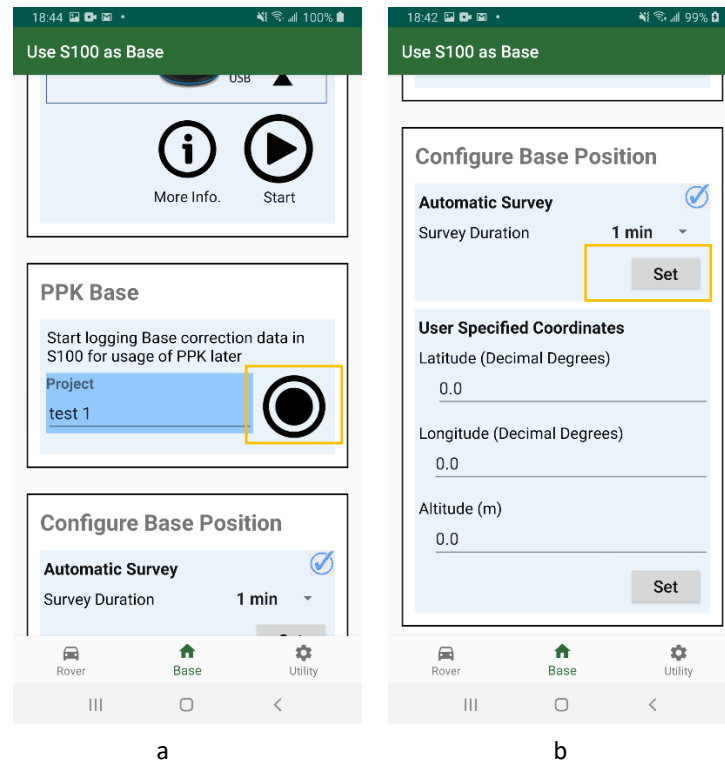

Figure A-2
1. Setup mobile RTK base to log data for later uploading to online PPP service to derive accurate base position. See Figure A-2 a.
2. Setup mobile RTK base to work with RTK rover, with base having approximate position  $P_0$ .  $P_0$  can be 1 minute automatic surveyed approximate position. See Figure A-2 b.